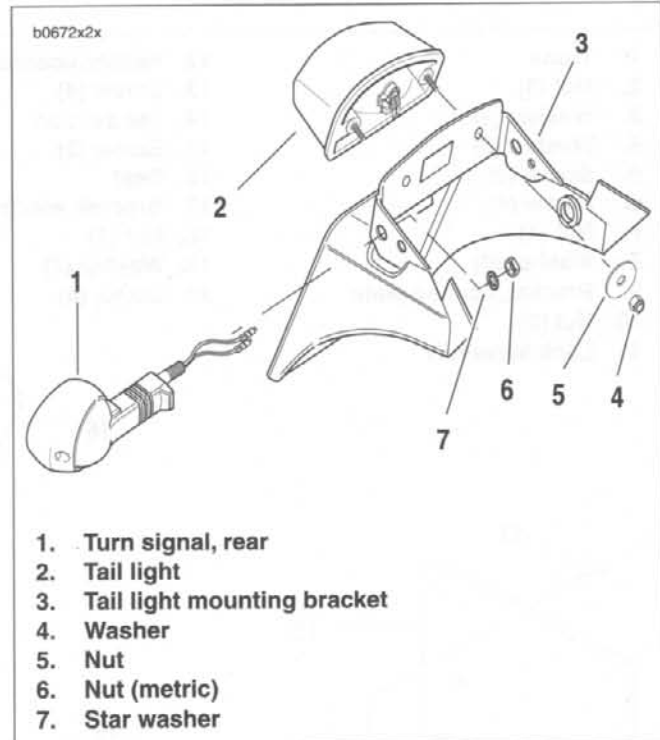

Figure 2-169. Tail Light/Rear Turn Signals
1. See Figure 2-169. Remove two nuts (metric) (4) and washers (5) from tail lamp studs to detach the tail lamp (2). Pull the three wires from back of tail lamp.
3. See Figure 2-169. Remove turn signal nuts (metric) (6) and washers (7). Disconnect bullet connectors.
4. Tilt license plate bracket (3) forward to remove.
2. See Figure 2-169. Install turn signals (1), with drain holes facing down, with star washers (7) and nuts (6) (metric). Tighten to 96-120 **in-lbs** (10.8-13.6 Nm). See 7.14 TURN SIGNALS to connect wiring.
3. Install nuts (metric) (4) and washers (5) for tail lamp (2). Do not connect wires until after installation.